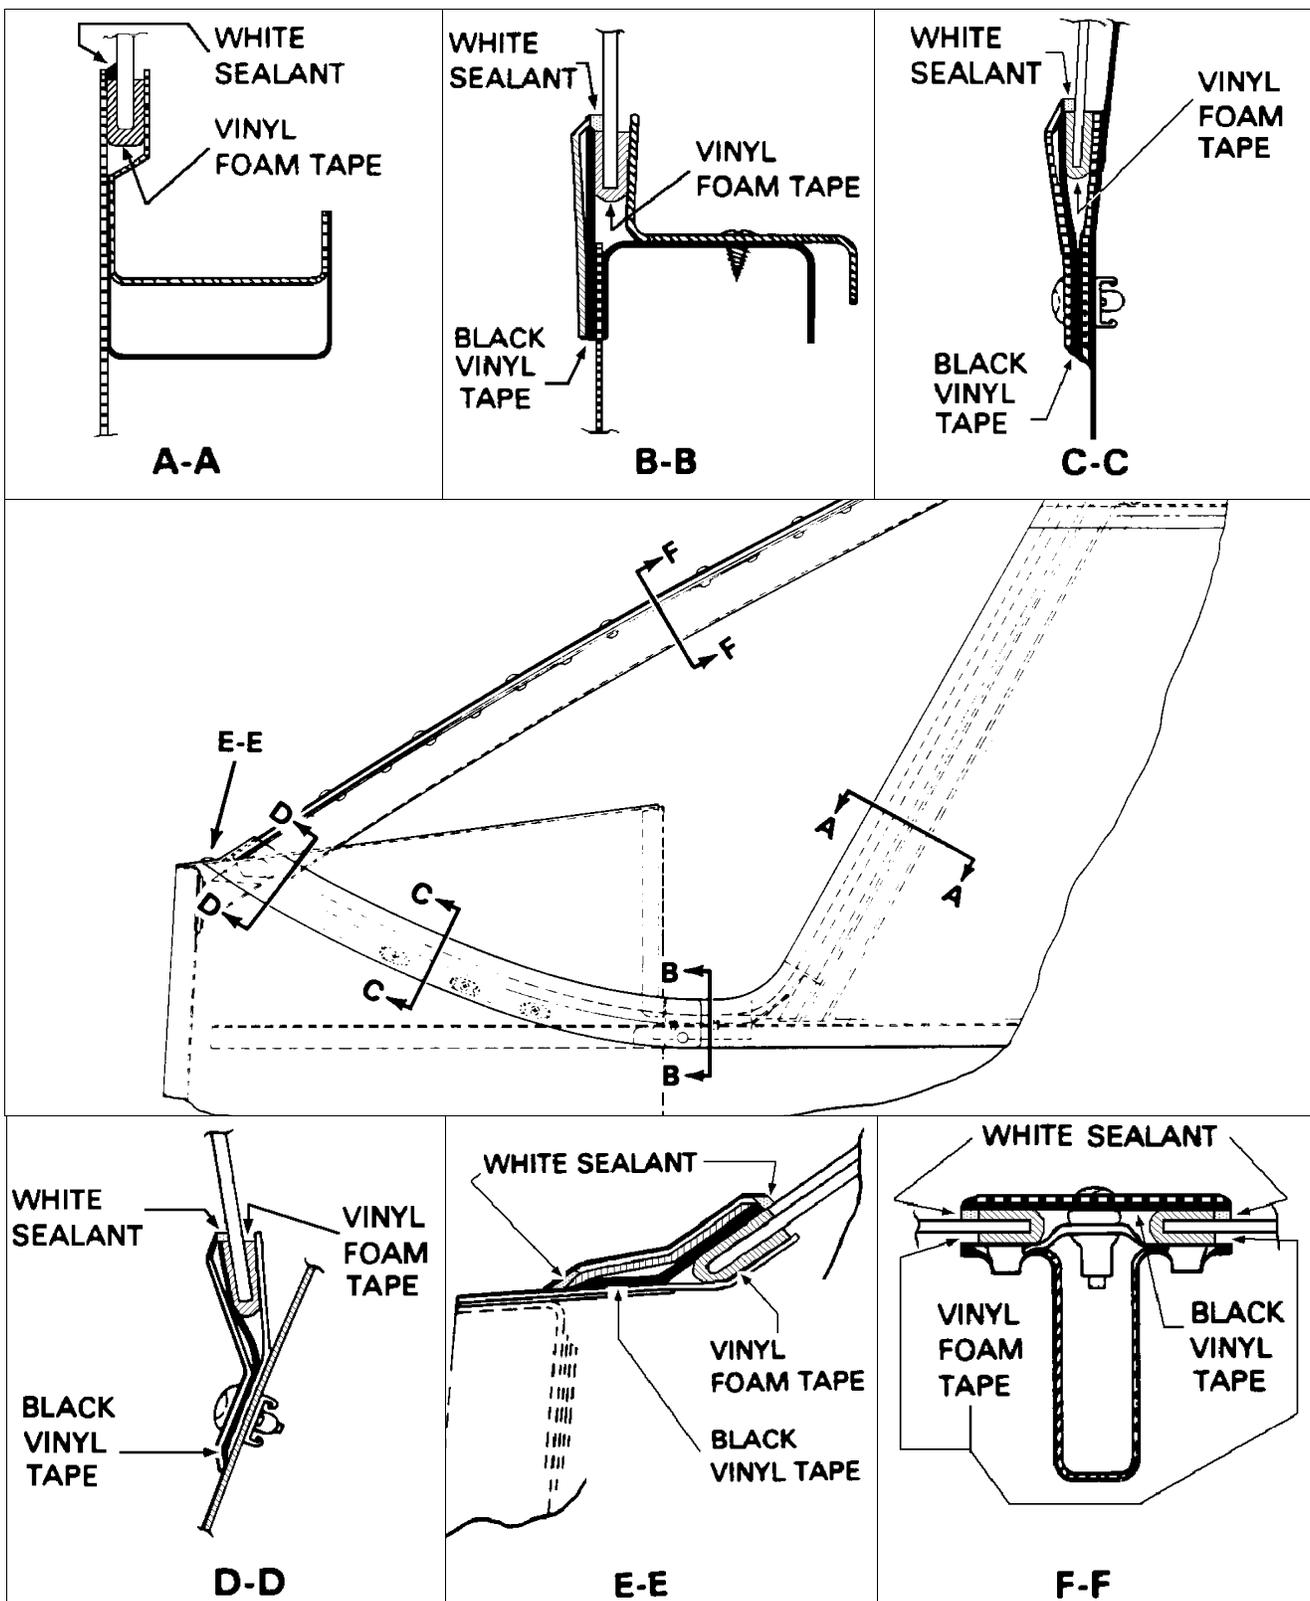

Figure 56-1. Windshield Installation (Typical)
1. REMOVAL. (Refer to Figure 56-1.)
2. INSTALLATION. (Refer to Figure 56-1.)
- d. Apply 1.5 in., 9 mil, black vinyl tape covering the previously applied vinyl foam tape and sealing the joint between the windshield and airframe as indicated in Figure 56-1.
- e. Apply polyurethane, urethane, acrylic, or polysulfide sealant (see Chart 9105, Sealant - Window and Airframe), to seal the forward edge of the vinyl tape at the bottom of the center post, as indicated in Figure 56-1, View E-E.
- f. Reinstall collars and trim strip. Apply sealant as indicated in Figure 56-1 by forcing the sealant between the mating parts. Mating parts may be separated slightly using a soft wooden wedge or a tongue depressor. Force sealant deep into the gap. Take care to avoid bending or scratching aluminum or windshield surfaces. Joints should be completely filled, and blended smoothly with adjacent surfaces after clean-up.